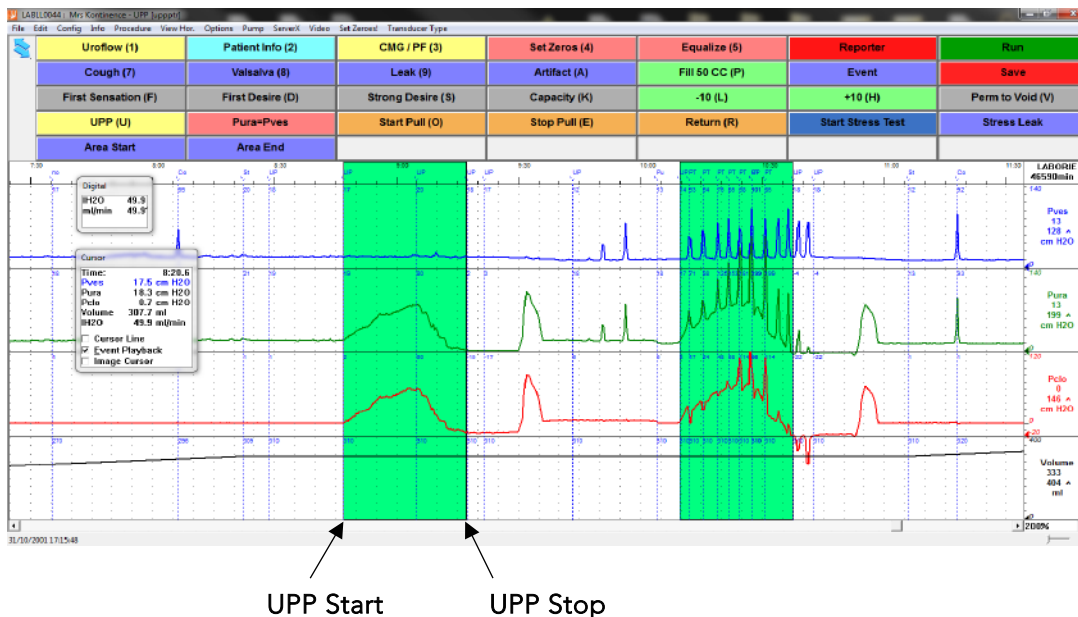

Figure 151: Auto Event Background Color
- Once the color is selected, click **Close** to exit *Event Properties* and then click **OK** to close the *Event Display Options* window. During the next test the graph will display a colored background where the events occur (Figure 151).